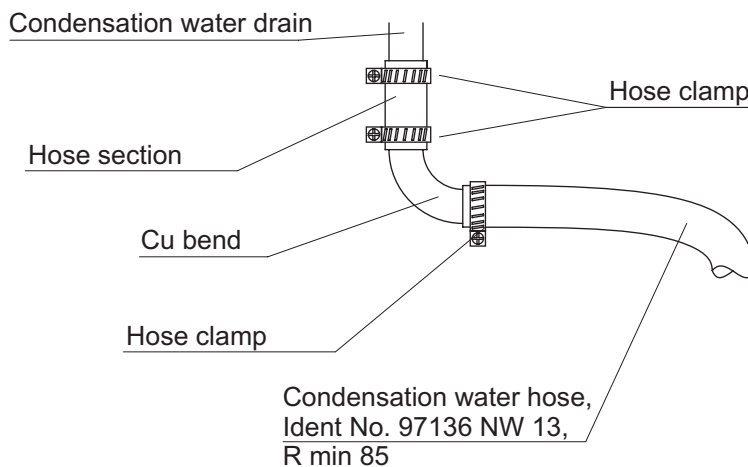

Fig. 412 Condensation hose connections
3. Secure the condensation hose to the condensation drain as shown in Fig. 412 and route it downwards along the refrigerant hoses. Route the hose out of the vehicle at a suitable point, but not near the silencer. Do not exceed the bending radius $R = 85$ mm.